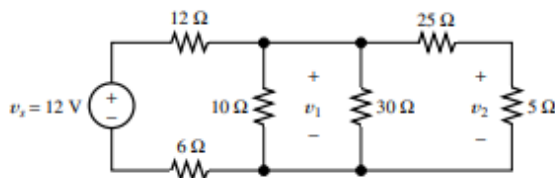

Figure P2.26
***P2.26.** Find the voltages v_1 and v_2 for the circuit shown in Figure P2.26 by combining resistances in series and parallel.
P2.27. Consider the circuit shown in Figure P2.26. Suppose that the value of v_s is adjusted until $v_1 = 10$ V. Determine the new values for v_2 and v_s . (Hint: Start at the location of v_2 and compute currents and voltages, moving to the right and left.)